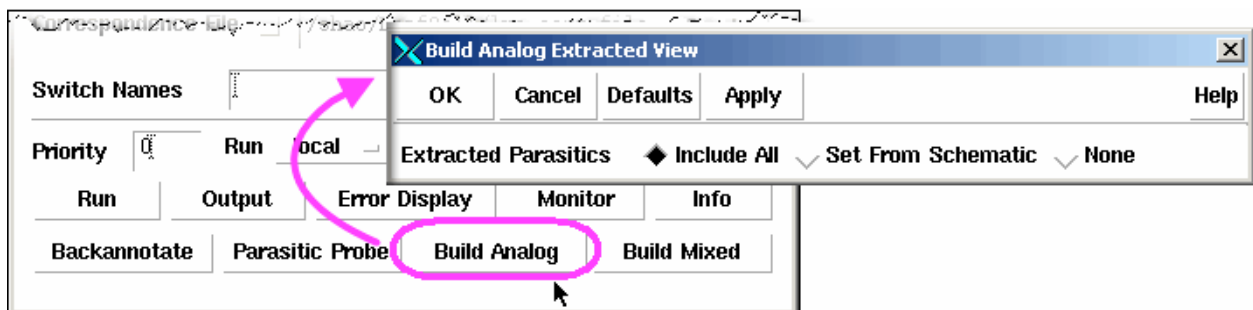

Figure 118: Build Analog for the PF
17. After the Net-lists match, go back to the LVS form to *Build Analog*.(Figure 118)